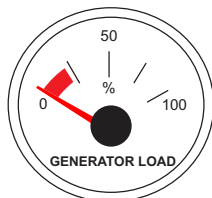

Figure 14. Generator Load Gauge
14. Verify that the **generator load gauge** (Figure 14) reads the anticipated percentage of load. It is recommended the load be above the red area (20%) for maintaining sufficient exhaust temperature.